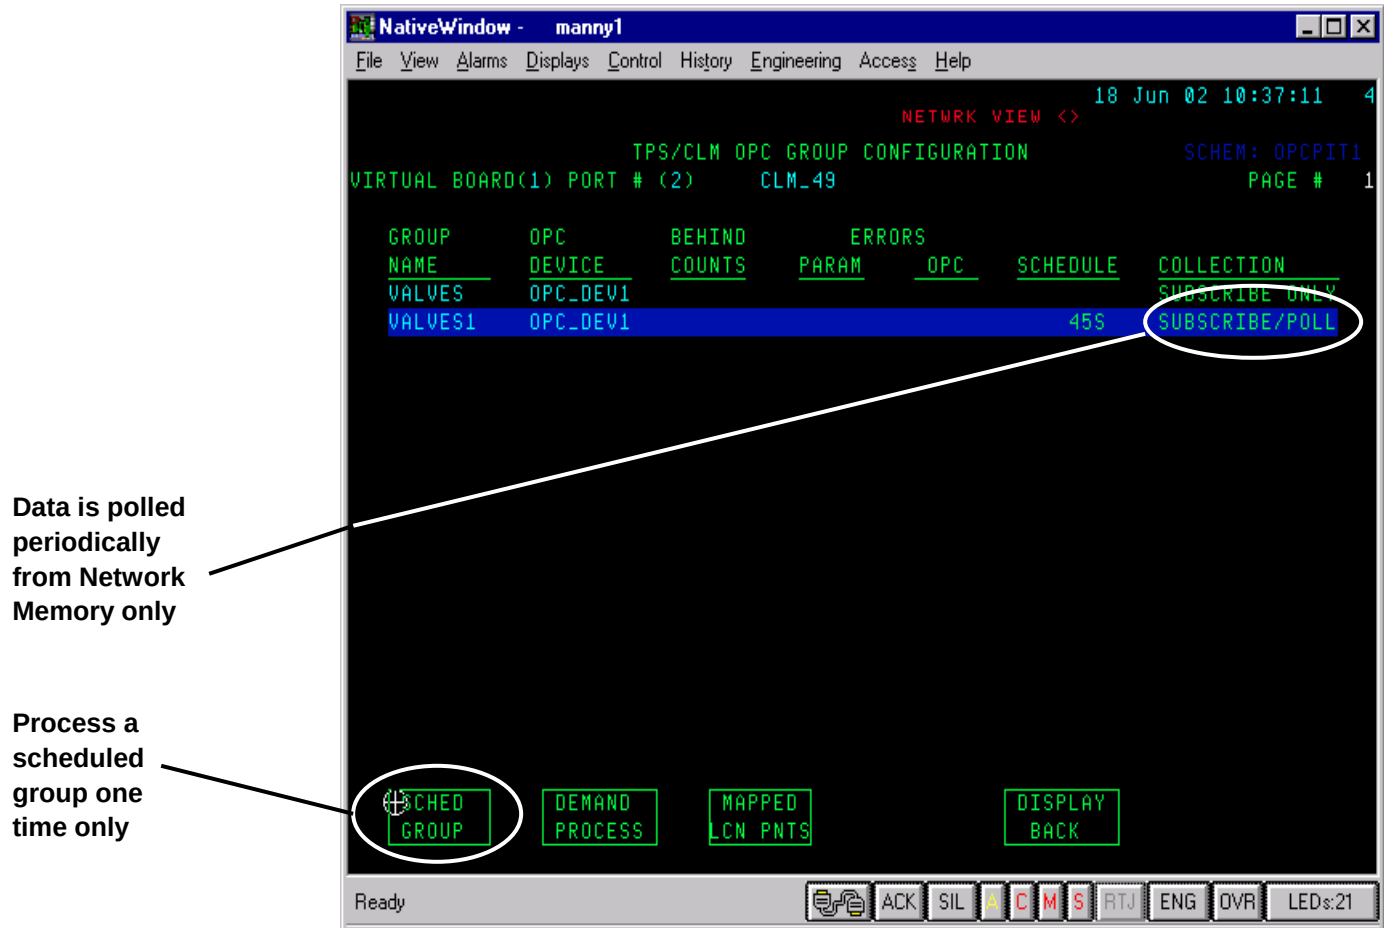

Figure 7.6-1 Group Configuration Display – Demand Process
7.6.5	When the display invokes, select the Group (PIT) name containing the item mapped to the image point parameter. This will invoke functional and detail targets at the bottom of the display. The display will look similar to Figure 7.6-1 below.